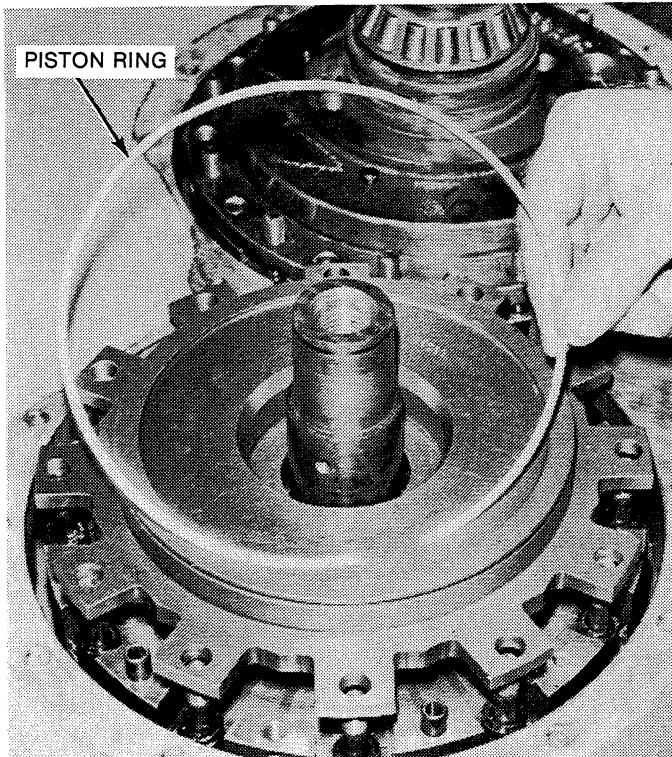

Figure 6-14. Piston Ring Removed from Clutch Piston.
6. Remove the piston ring from the clutch piston. See Figure 6-14.